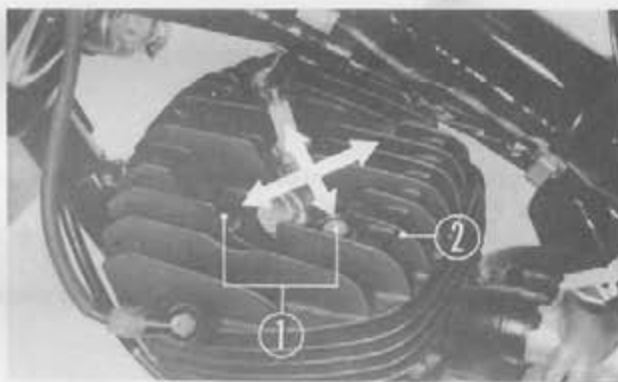

Fig. 4-29 ① 10mm special nut ② Cylinder head
5. As shown in Fig. 4-29, install and slowly tighten the cylinder head in a criss-cross pattern. Then retighten it equally to the specified torque.